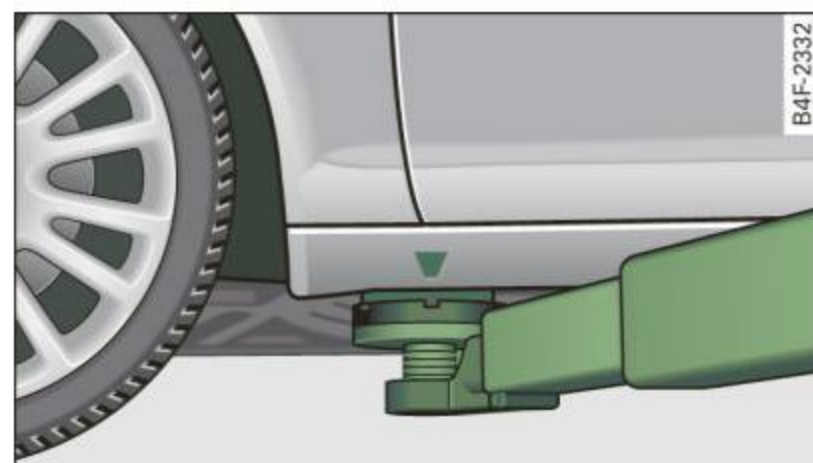
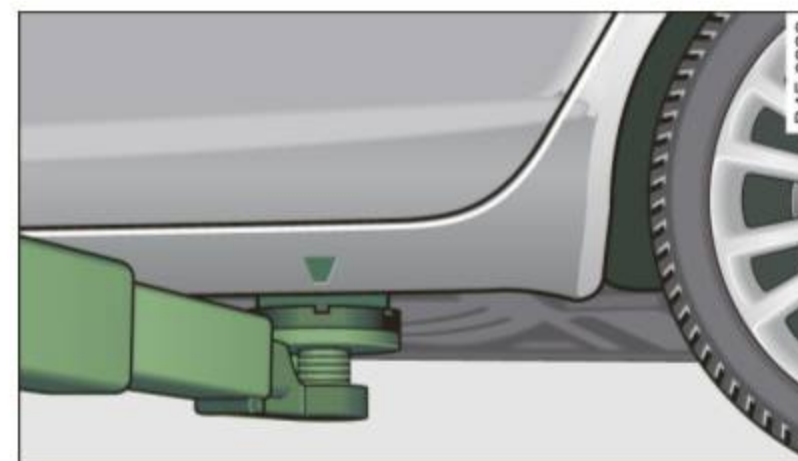

Fig. 245 Front lifting point
Fig. 246 Rear lifting point
- Locate lifting points ⇒ fig. 245 and ⇒ fig. 246.
The lifting point is located on the floor pan reinforcement about at the same level as the jack mounting point ⇒ fig. 245. **Do not lift the vehicle at the vertical sill reinforcement.**
The lifting point is located on the vertical reinforcement of the lower sill for the onboard jack ⇒ fig. 246.
- Always lift the vehicle only at the special workshop hoist and floor jack lift points illustrated ⇒ *page 330*, fig. 245 and ⇒ *page 330*, fig. 246.